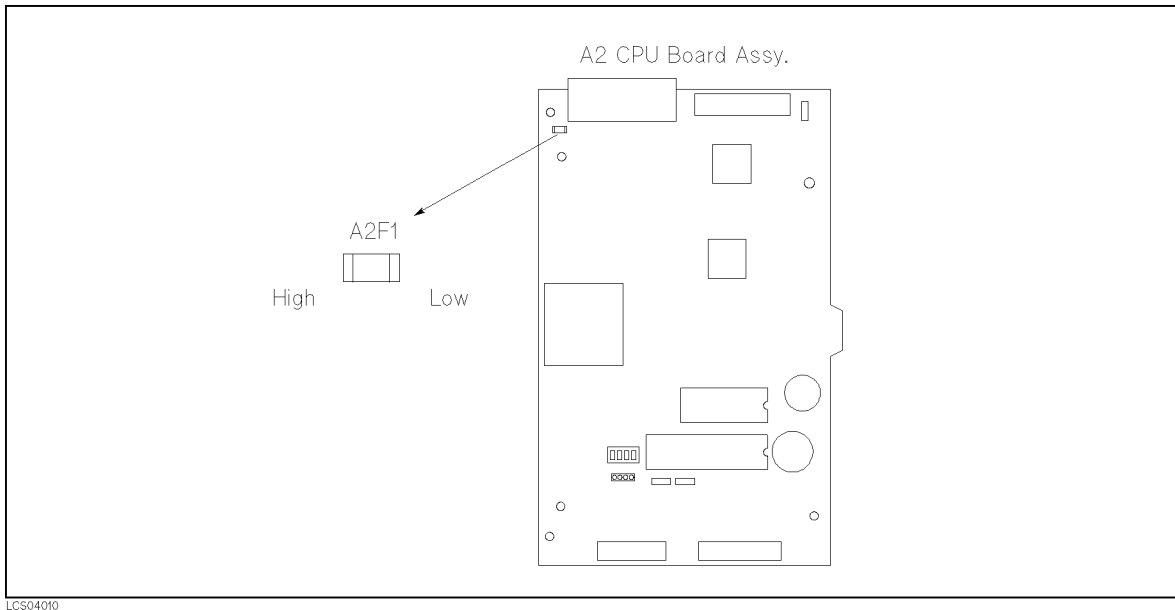

Figure 4-11. Location of High Lead of A2F1 Fuse
2. Using a multimeter, check if the dc voltage at the high lead of the fuse F1 on the CPU Board shown in Figure 4-11 is $+5\pm0.2$ V.